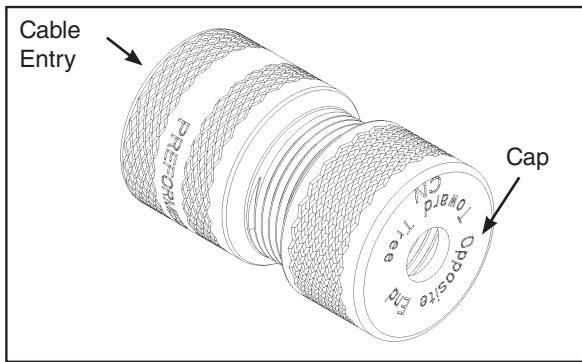

FIGURE 2
- 3.00** Twist cap on WEDGE-GRIP™ Dead-end just until wedges are loose and separated enough to insert the cable (Figure 2). Be careful not to twist the cap completely off the housing.